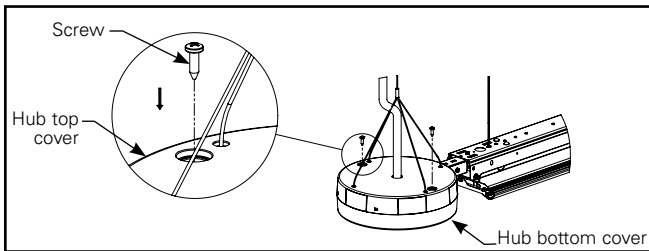

Figure 11.3.
- C. Install screw between hub top and bottom cover at two places (Figure 11.3).